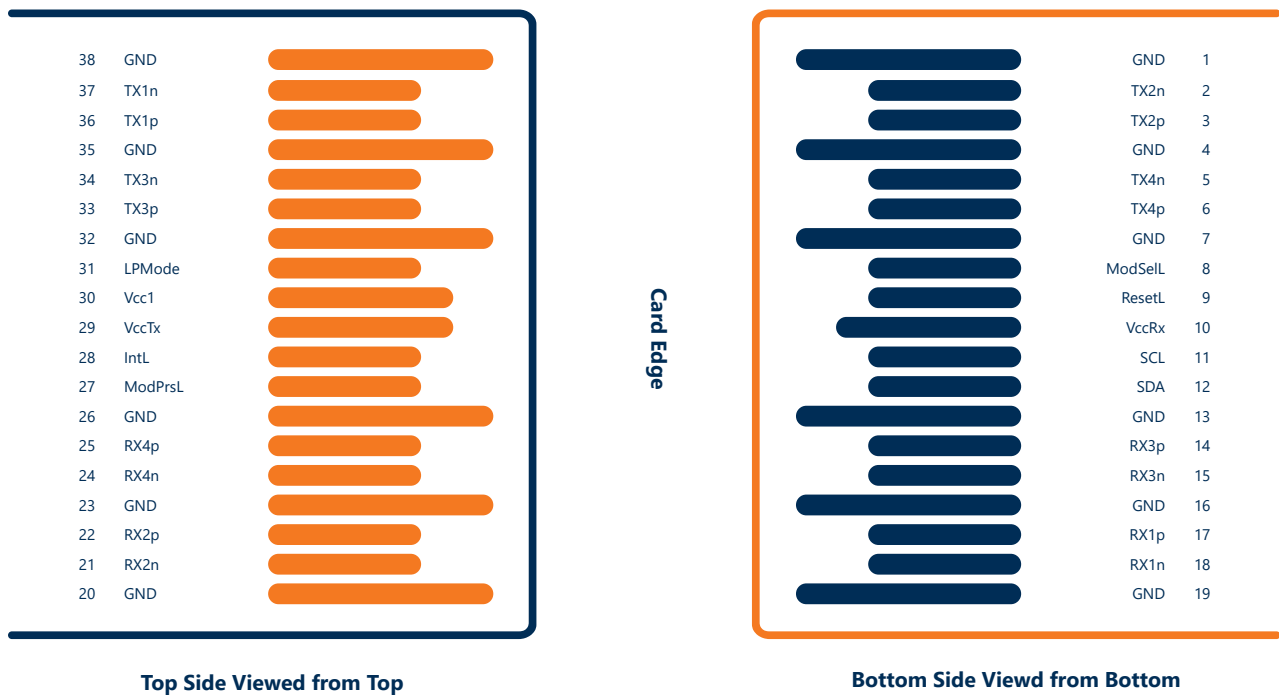

Figure 3. HP Aruba Compliant Connector
2. VccRx, Vcc1 and VccTx are the receiving and transmission power suppliers and shall be applied concurrently. Recommended host board power supply filtering is shown in Figure 3 below. Vcc Rx, Vcc1 and Vcc Tx may be internally connected within the module in any combination. The connector pins are each rated for a maximum current of 500mA.